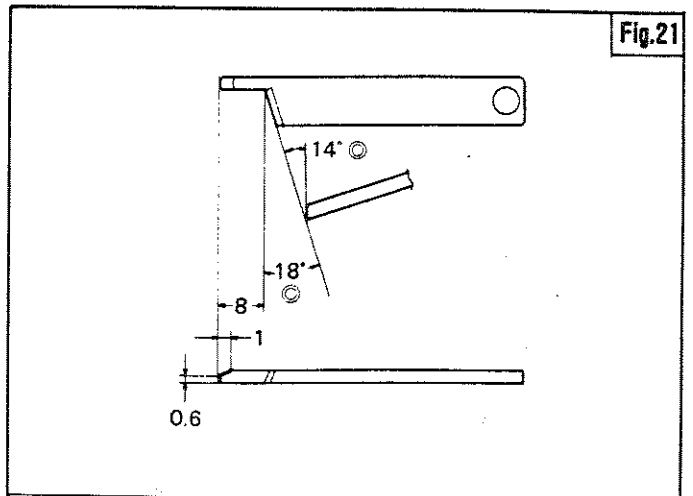

Fig.21
SHARPENING KNIVES (Figs. 21 and 22)
- (1) Refer to Fig.21 for Upper Knife.